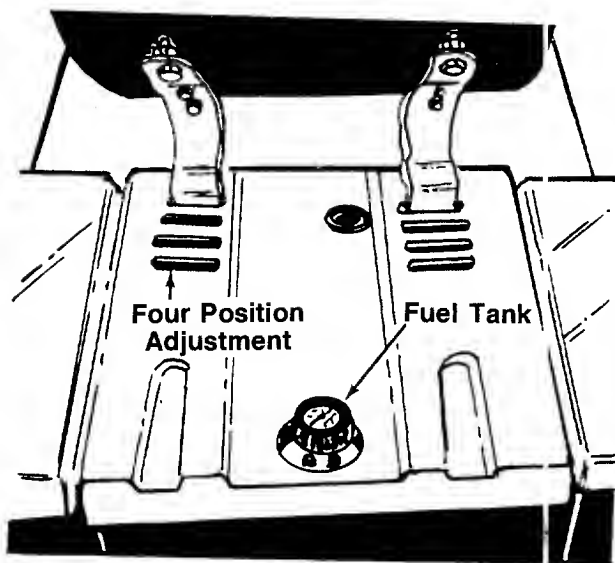

FIGURE 3A.—Models 722, 727, 732, 737, 742, 747, 752 and 757
1. **Models 722, 727, 732, 737, 742, 747, 752 and 757:** The seat can be adjusted to four positions. With the seat tipped forward, hook the front of the seat spring into the slots on the tractor frame. Allow the seat to pivot backwards until it rests on the rear of the springs. See figure 3A.